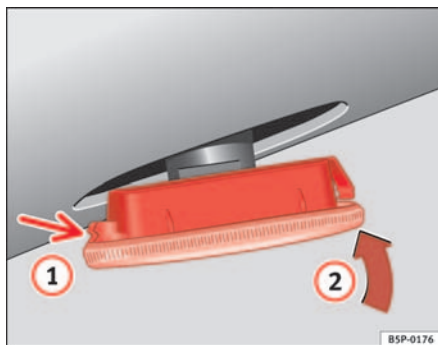

Fig. 152 Side indicators
- First fit the indicator in the opening in the chassis, fastening the tabs **1** ⇒ fig. 152, and then fit in the lamp as shown by the arrow **2** ⇒ fig. 152 ■